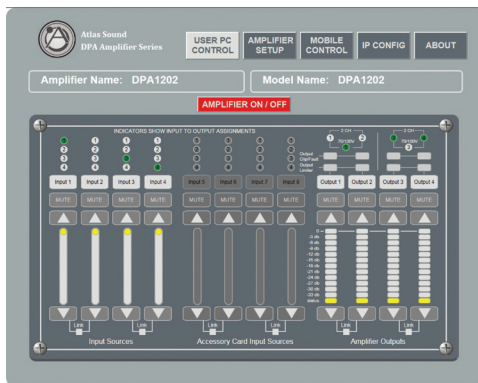

Figure 2
6. The amplifier will be discovered and the DPA User PC Control Page will launch after pressing the "Enter" key. An example of the DPA User PC Control Page GUI web page is shown in Figure 2.